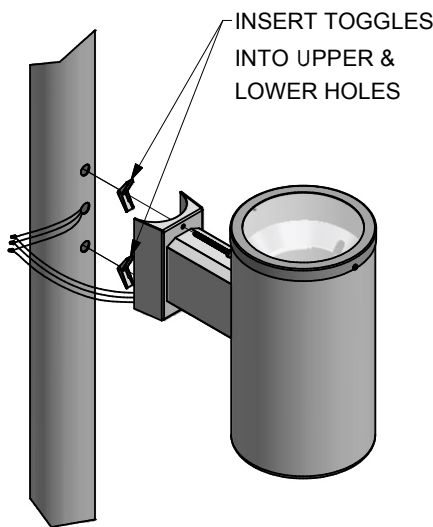

FIG. 3
4. CONNECT THE ELECTRICAL WIRES TO THE FIXTURE AND STUFF THE WIRE NUTS BACK INTO THE CENTER Ø3/4" HOLE IN THE POLE AS SHOWN IN FIG. 3.
5. INSERT THE (2) 1/4-20 x 3" BOLTS THROUGH THE MOUNTING BRACKET & CONNECT THE (2) 1/4-20 TOGGLES ON THE BACK SIDE OF THE BRACKET. INSERT THE TOGGLES INTO THE TOP & BOTTOM Ø3/4" HOLES & TIGHTEN THE BOLTS AS SHOWN IN FIG. 3.